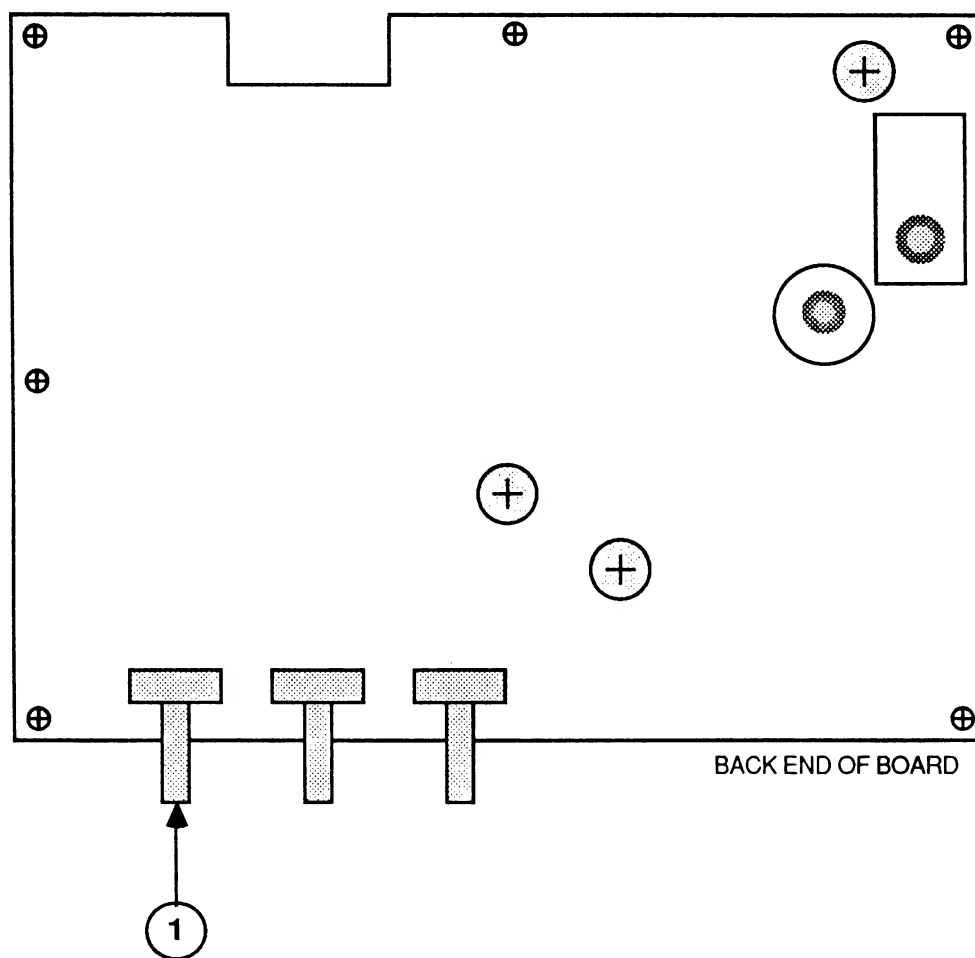

**FIGURE 13**
5. If necessary, readjust the vertical hold control R302 (Figure 13, #1) until the picture locks (stops rolling) on the vertical sync.